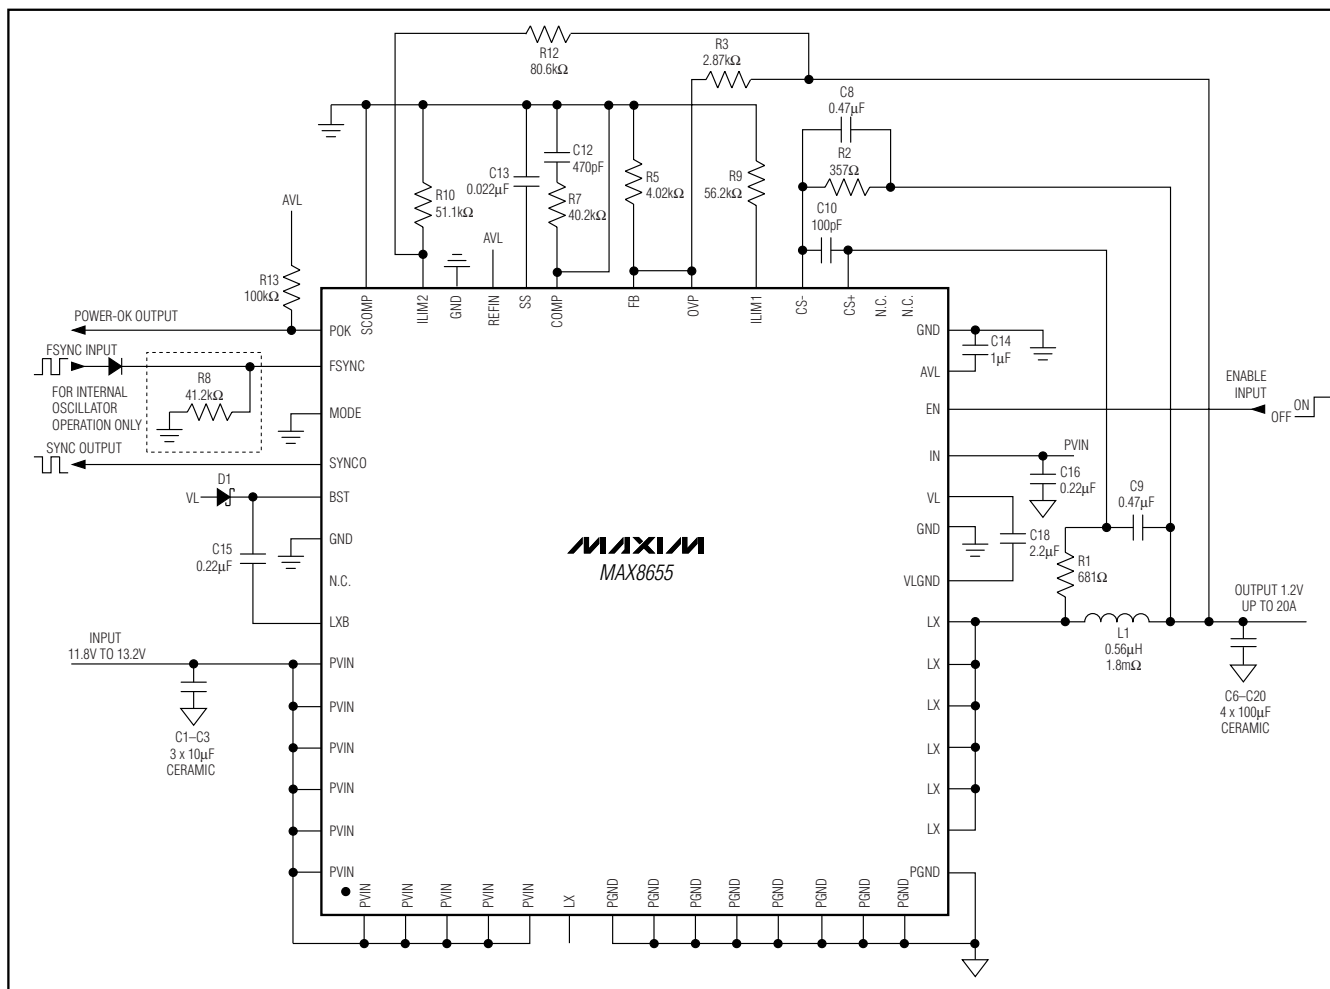
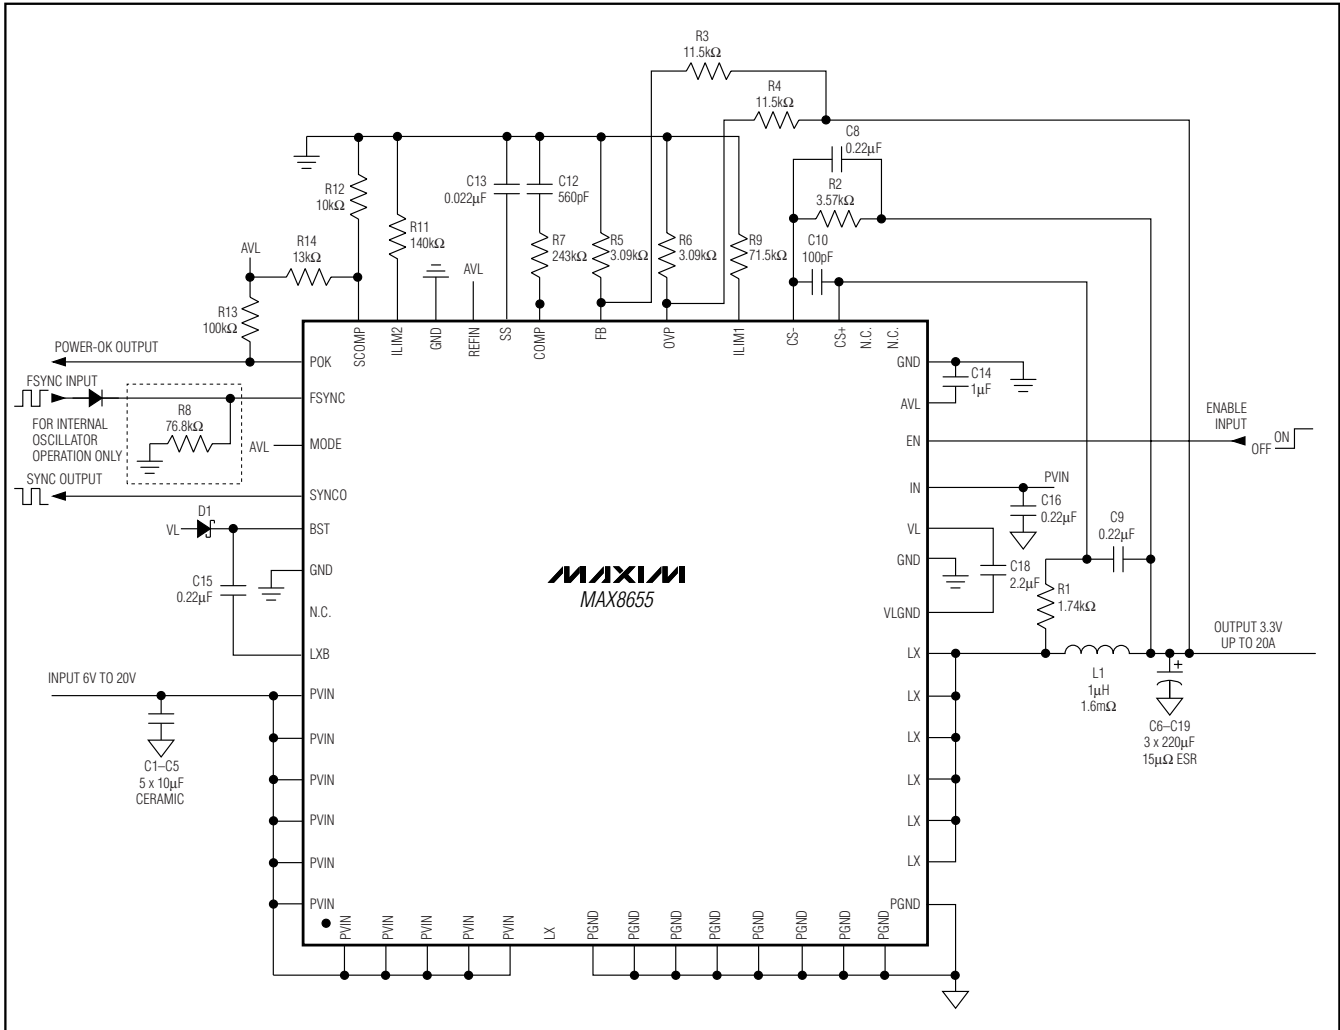

Figure 3. Single-Phase, 600kHz Switching, 10.8V to 13.2V Input, and 1.2V/20A Output
Figure 4. Single-Phase, 350kHz Switching, 6V to 20V Input, and 3.3V/20A Output
(CIRCUIT OF FIGURE 3)**
**EFFICIENCY vs. OUTPUT VOLTAGE (CIRCUIT OF FIGURE 4)**
**EFFICIENCY vs. LOAD CURRENT 12V INPUT, 3.3V OUTPUT (CIRCUIT OF FIGURE 4)**
**EFFICIENCY vs. FREQUENCY 12.0V INPUT 3.3V OUTPUT (CIRCUIT OF FIGURE 4)**
The MAX8655 can also be synchronized to an external clock by connecting the clock signal to FSYNC. A synchronization output (SYNCO) is provided to synchronize a second MAX8655 180° out-of-phase with the first by connecting SYNCO of the first MAX8655 to FSYNC of the second. When the first MAX8655 is synchronized to an external clock, the external clock is inverted to generate SYNCO. Therefore, to get 180° out-of-phase operation with an external clock, the clock input to the first MAX8655 should have a 50% duty cycle. Figure 3 is the single-phase, 600kHz switching, 10.8V to 13.2V input and 1.2V/20A output. Figure 4 shows single-phase, 350kHz switching, 6V to 20V input, and 3.3V/20A output.
To set the overvoltage threshold voltage for the MAX8655, connect OVP to the center of an external resistor-divider connected between the output and GND (R4 and R6 of Figure 3). Select R6 between 5kΩ and 24kΩ, then calculate R4 with the following equation:
The MAX8655 uses an internal transconductance error amplifier whose output compensates the control loop. The external inductor, output capacitor, compensation resistor, and compensation capacitors determine the loop stability. The inductor and output capacitor are chosen based on performance, size, and cost. Additionally, the compensation resistor and capacitors are selected to optimize control-loop stability. The component values, shown in Figures 3 and 4, yield stable operation over the given range of input-to-output voltages.